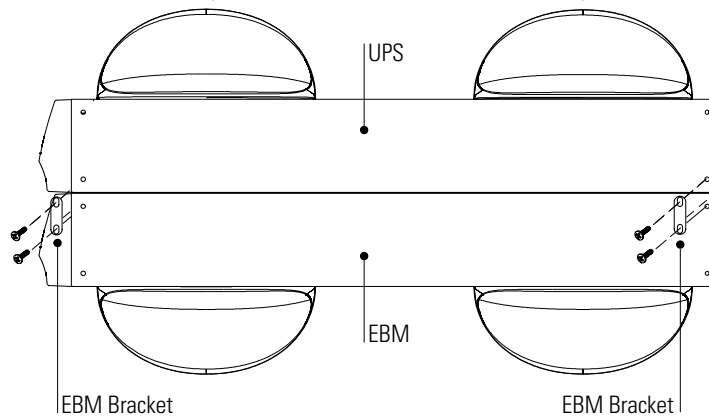

Figure 6. Installing the EBM Brackets (Top View with Pedestals)
- Align each EBM bracket with the adjacent corner screw holes and secure with the supplied screws (see Figure 6).